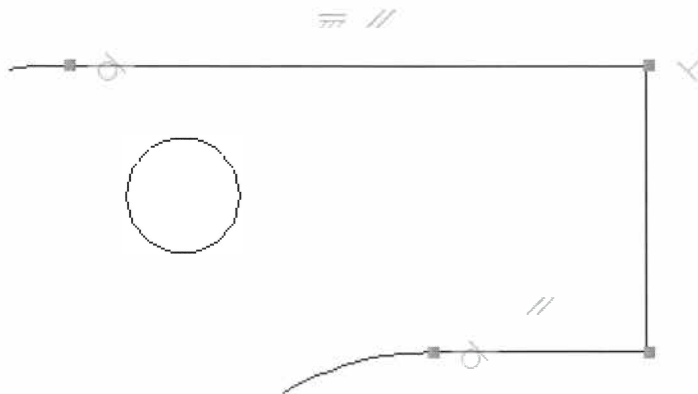

Figure 4–32
10. In the Geometric panel, click **=** (Equal). Select the vertical line on the right and then the angled line on the bottom left, as shown in Figure 4–33. The two lines become equal in length.